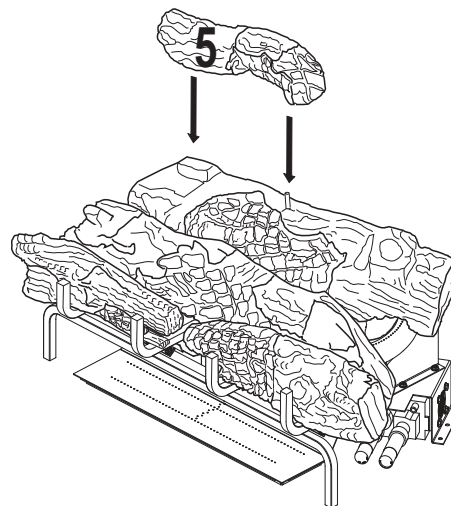

Figure 32 - Installing Log # 5
- Match the metal pin on the top of the rear log with the round hole in the bottom of the left top back log. See **Figure 32**.